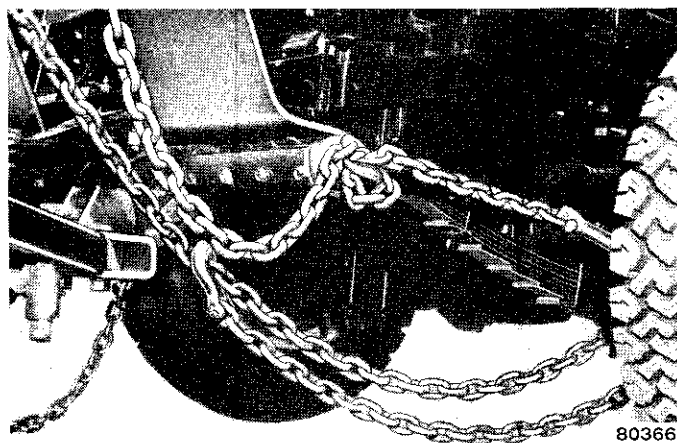

Fig. A-13 Rear Towing—CJ Models
**Rear (Refer to Figure A-13)**